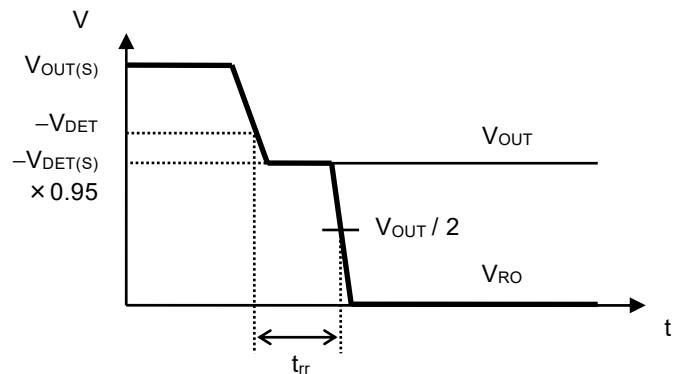

Figure 7 Reset Reaction Time
*4. The time from when V_{OUT} falls below -V_{DET} to when the RO pin output inverts (Refer to **Figure 7**).